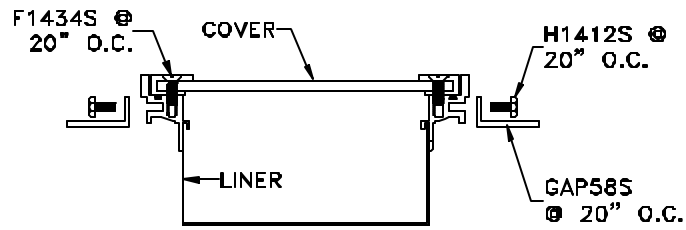

Figure 8
- STEP 12.** If the system is to be installed into a blockout, attach the angles (part no. GAP58S) to the frame using the fasteners provided (part no. H1412S). Spacing for the angles is 20" o.c. (see Figure 8).